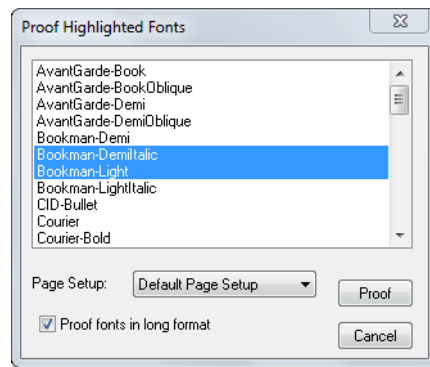

Figure 3.3 Proof Highlighted Fonts dialog box
1. From the **Fonts** menu, choose **Proof Fonts**. A window appears with a list of the available fonts, which the Navigator Harlequin RIP can use with any of its possible output devices. (See Figure 3.3.)